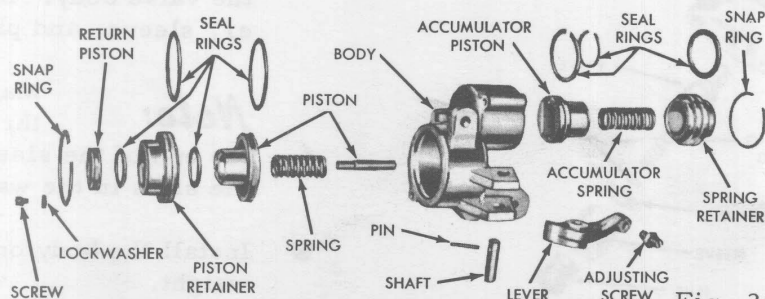

Fig. 26
- ☒ Remove the servo piston retainer snap ring (Fig. 26).
- ☒ Inspect the servo body for cracks. Check the piston bore and the servo piston stem for scores (Fig. 26). Check fluid passages for obstruction.